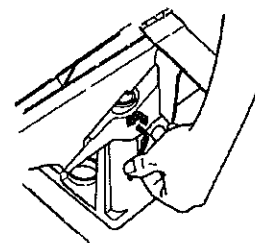

Fig.C-4
8. Loosen the two setscrews which lock the Jointer casting to the Jointer's mounting tubes. The setscrews on the carriage should still be loose. See Fig.C-4.